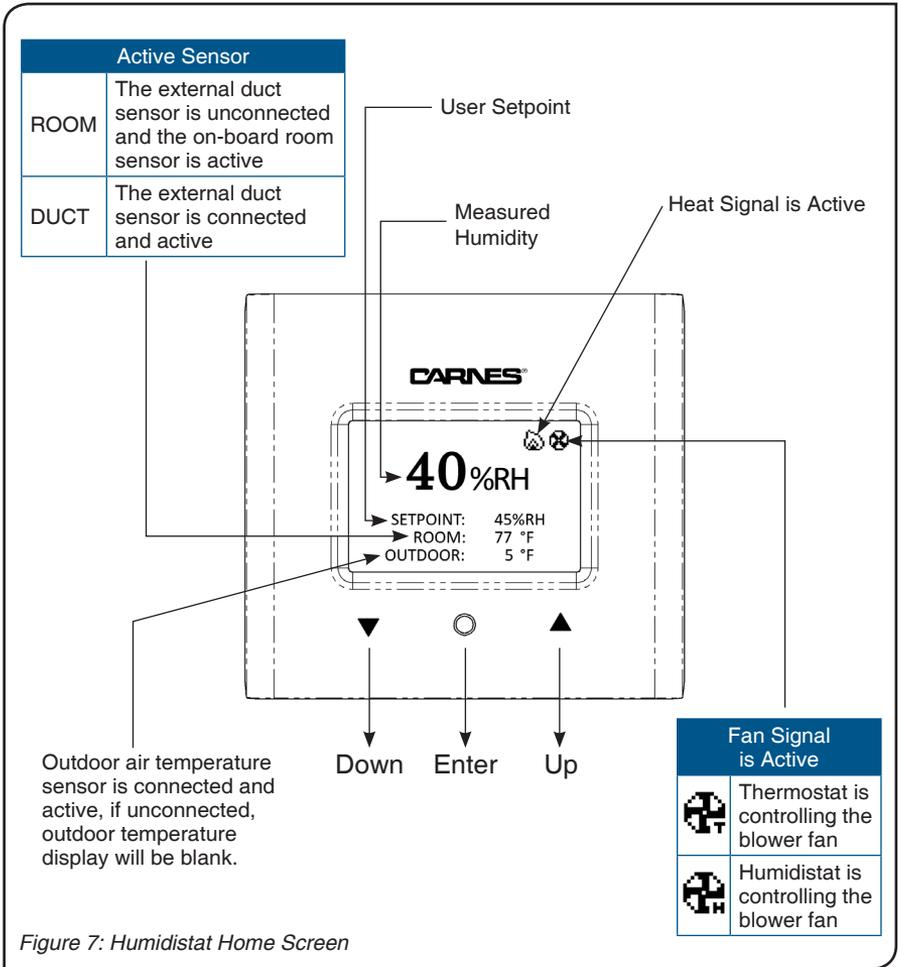

Figure 7: Humidistat Home Screen
The residential humidistat accepts heat and fan input signals from the thermostat. When the heat signal is active a moving flame symbol will be shown in the top right corner of the display screen. When the fan signal is active a spinning fan icon will appear. A small ‘T’ in the bottom right hand corner of the fan icon signifies that the thermostat is currently in control of the fan as shown in *Figure 7*. If the humidistat has activated the fan the icon will have a small ‘H’ in the bottom right hand corner as shown in *Figure 7*.
- The Setpoint Adjustment option on the Settings screen, shown in *Figure 7*, allows the user to adjust the desired relative humidity setpoint. Choosing this option will allow the user to enter the setpoint adjustment screen.
While on this Setpoint Adjustment Page the user can adjust the desired relative humidity setpoint for the humidified space (shown in *Figure 9*). The factory default value of this setting is 45%RH and can be adjusted up or down depending on user preference. To save the value press the enter button again. The new humidity setpoint should now be shown on the main screen (*Figure 7*).